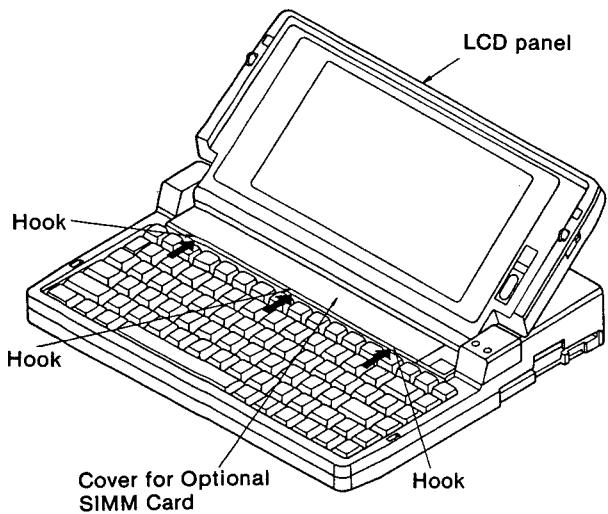

Figure 6
- (8) Turn over the computer again so that the front is facing you.
- (9) Open the display panel as shown in Figure 6.
- (10) Pushing in the direction of the arrows, unlatch the three hooks of the cover for optional SIMM card as shown in Figure 6.